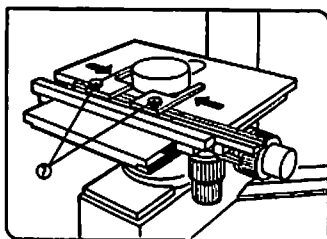

Fig. 40
After loosening the specimen holder clamping screws (7), slide the specimen holder apart to place the specimen. Clamp the specimen holder by tightening the clamping screws (7). (Fig. 40)